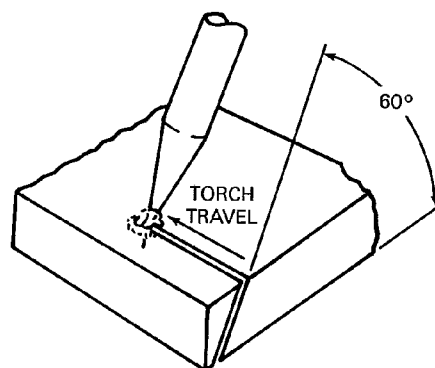

Figure 17—Bevel Cutting
7.3 Bevel Cutting (see Figure 17). When plate is being cut for use in welded assemblies, the edges are often cut at an angle rather than perpendicular to the plate surface. Bevel cuts can be obtained by tilting the entire torch or by use of a bevel adaptor. A larger size tip is often required because the length of a bevel cut face is greater than that of a square cut.